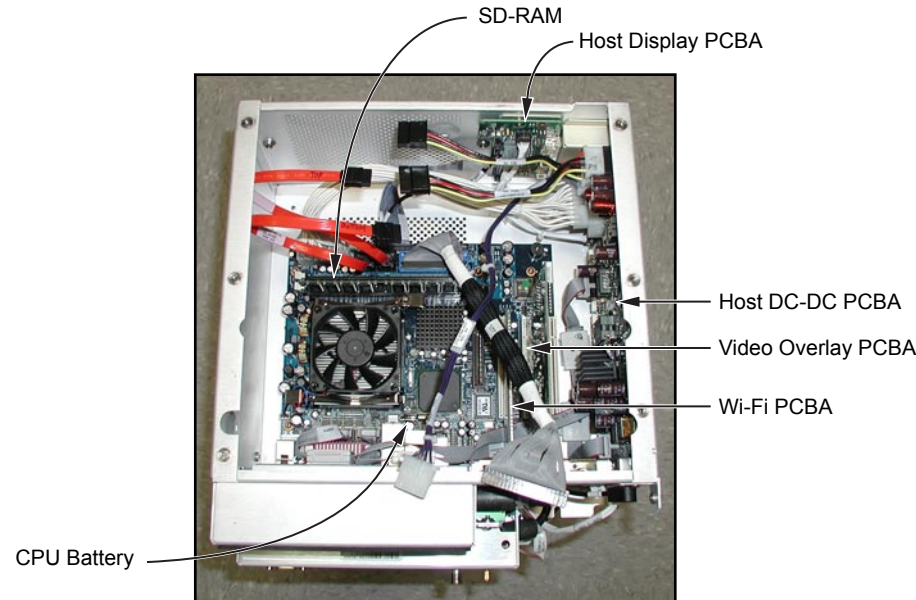

Figure 3-7 Components Inside Host
- 7.2 Components inside Host can now be removed as required (see Figure 3-7).